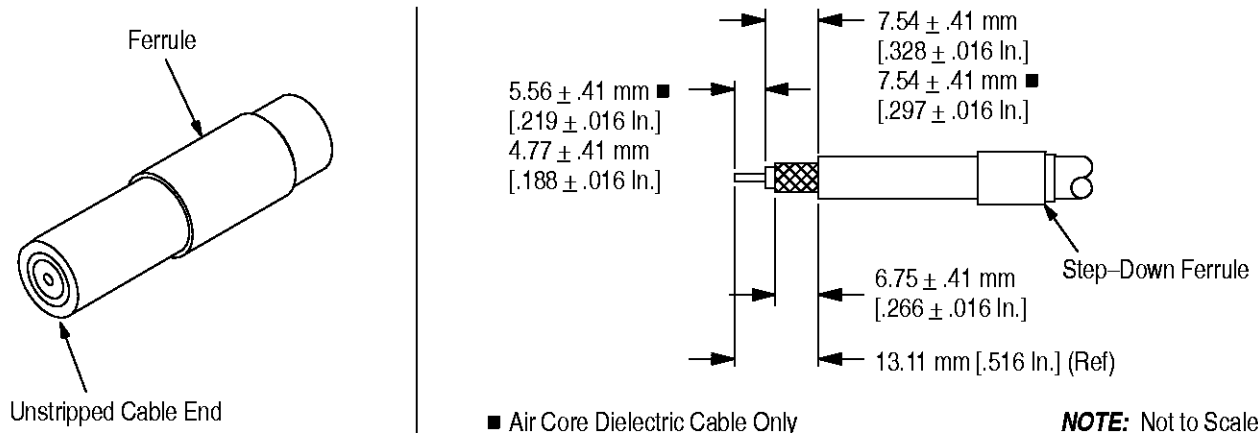

Figure 2
NOTE See Figure 2 for orientation of step-down ferrule.
- Slide the ferrule over the unstripped cable end and strip the cable as shown in Figure 2. Be sure that the center conductor is straight and free of burrs, and that the cable braid is not nicked.